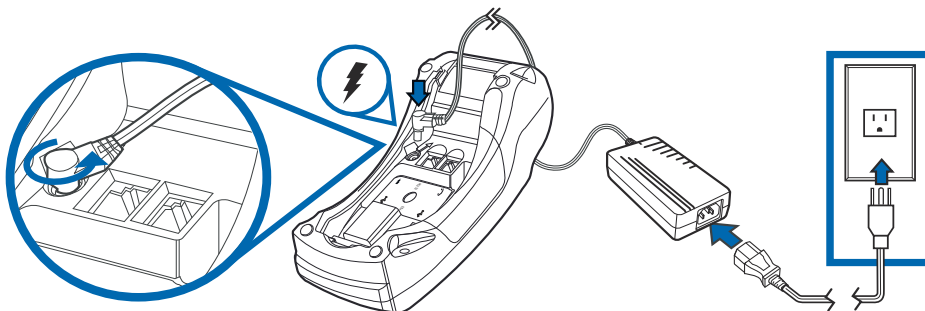

Figure 16 VX 520 Power Pack Connection
- 2 Insert the round barrel connector (see Figure 16) into the power port.